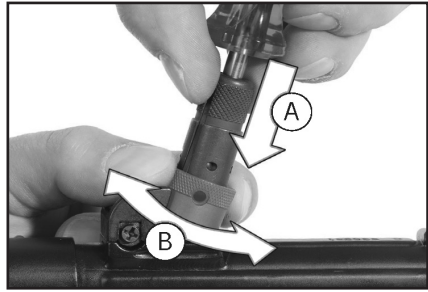

Fig. 16 – Adjust rear sight
2. Insert the Phillips-head screwdriver into the elevation adjustment tool module (A), press downwards and hold it (Fig. 16).
3. Turn rear sight drum counter-clockwise (B) (Fig. 16). Turning by one click changes the point of impact by approximately 1.375 cm (0.55 inches) at 25 meters (27.34 yards or 82 feet) range.
3. Turn rear sight drum (B) clockwise (Fig. 16). Turning by one click changes the point of impact by approximately 7 cm (2.76 inches) at 25 meters (27.34 yards or 82 feet) range.